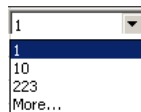

Figure 5-4. Change Control Point
- Click in the *WGS Point* / *Local Point* column and select the corresponding point (Figure 5-4).